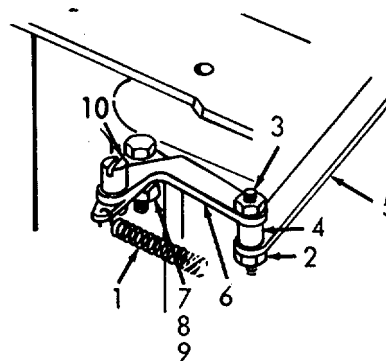
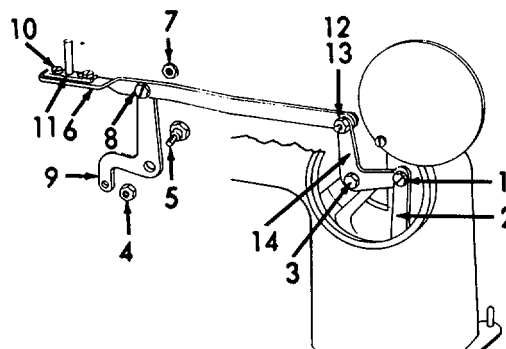

Figure 6-139. Pivot Lever, Removal.
Figure 6-140. Upper Connecting Strap, Removal.
a. Removal (Refer to Figures 6-139 and 6-140).
- (1) Refer to Figure 6-139. Remove spring (1).
- (2) Remove nut (2), nut (3), stud (4) and separate connecting strap (5) from pivot lever (6).
- (3) Remove nut (7), lockwasher (8), flat washer (9), screw (10), and pivot lever (6).
- (4) Refer to Figure 6-140. Remove screw (1) and connecting strap (2).
- (5) Remove screw (3).
- (6) Remove nut (4) and pivot screw (5).
- (7) Remove connecting strap (6) out front of arm.
- (8) Remove nut (7) and connecting stud (8). Separate connecting strap (6) from front segment (9).
- (9) Remove two screws (10) and kick pin support (11).
- (10) Remove nut (12), pivot screw (13), and pivot lever (14).